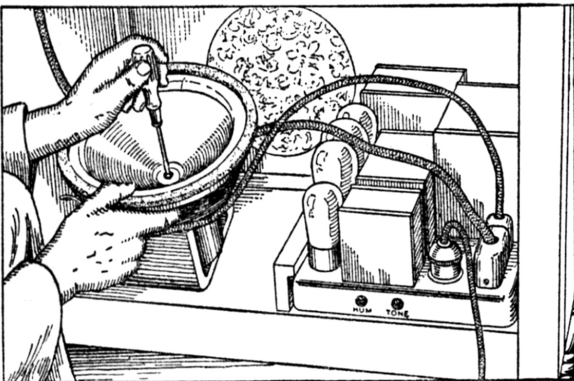

Fig. 13—Centering Cone in Electro Dynamic Reproducer
- d. Loosen the center screw as shown in Fig. 13, and then re-tighten the screw.